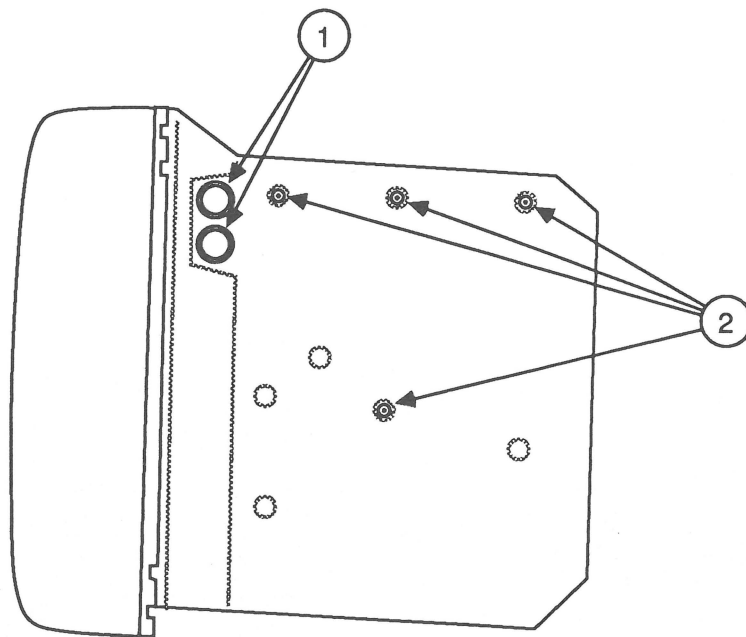

FIGURE 29
5. Pull off the contrast and brightness control knobs (Figure 29, #1).
6. Remove the four screws (Figure 29, #2) that secure the main board to the chassis. Pull the logic board slightly away from the side of the chassis.